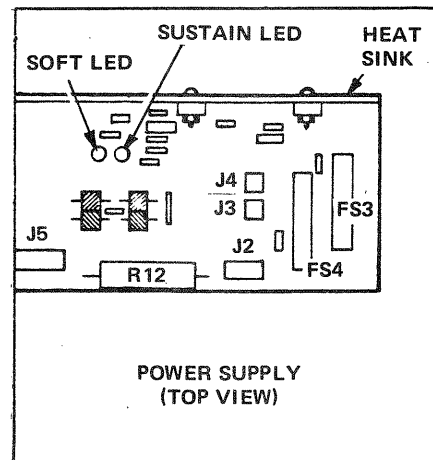

FIGURE 9-18 SUSTAIN L.E.D. location.
- A. Observe that the SUSTAIN L.E.D. (see FIGURE 9-18) on the Power Supply lights, then goes out five times during the Program. If it does not, no signal is coming from the Playback Circuits. Refer to Section 10, TROUBLE ANALYSIS, for system repair procedures.
- A. If the SUSTAIN L.E.D. on the Power Supply (see FIGURE 9-18 on the previous page) does not light or otherwise does not function correctly, refer to Section 10, TROUBLE ANALYSIS, for system repair procedures.